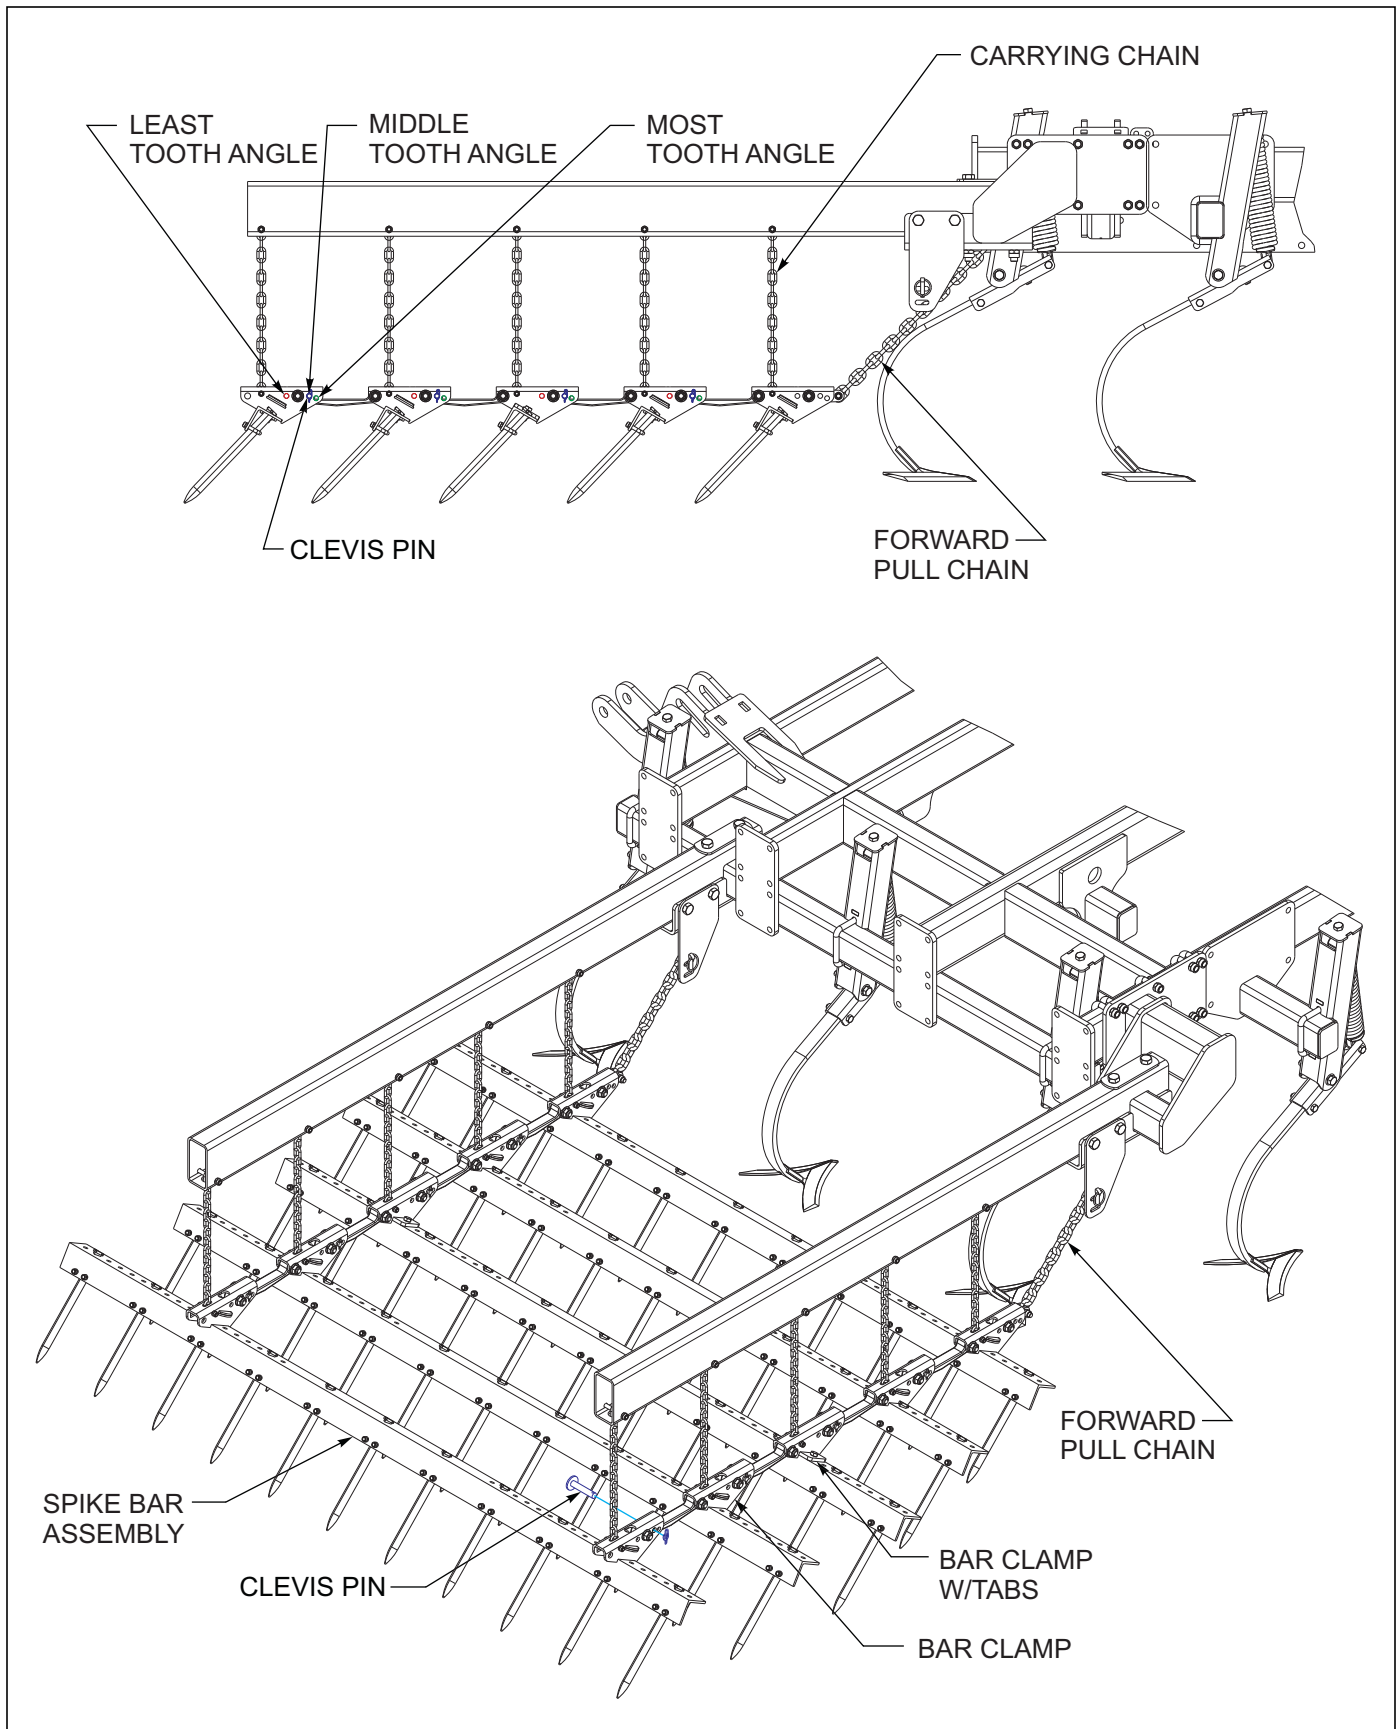

Figure 4-25: 5 Row Spike Harrow Adjustments
2. For the most aggressive spike to action, install the harrow adjustment pin in the forward mounting hole over each bar clamp for each spike bar **See Figure 4-25..** This will position the spike teeth to be in the most vertical position. In wetter or conditions with some residue, lower the spike tooth angle by positioning the harrow adjustment pin in the middle or rear hole. This will allow the teeth to lay flatter and shed more residue.
3. The forward pull chain will also influence how the 5 row spike operates as well **See Figure 4-25..** A taller pull point and shorter adjusted pull chain can help to start residue through the harrow. A lower pull point with a longer adjusted pull chain will help the entire harrow to run flatter from front-to-rear, and be more aggressive for increased leveling. When adjusting the pull chain, insert the desired pulling link through the slotted hole in the pull chain bracket, and install a lynch pin thru the link to secure the chain in place. Make sure the pull chains are set evenly for each section.